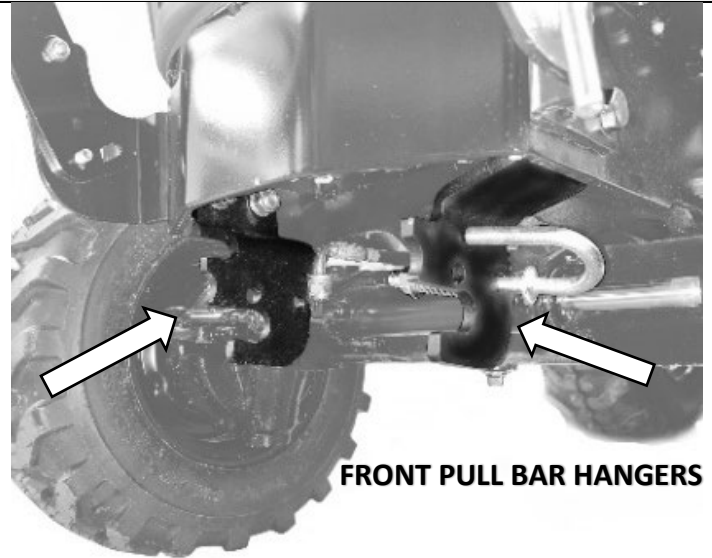

Figure 5B
5. Install the Front Pull Bar Hangers on the inside of the tractor frame. Align the hanger holes with the bottom holes on the tractor frame and secure them using the bolts and nuts removed in the previous step. The J-Bolt Pin will be installed on the left side of the tractor (figure 5B). Leave the J-Bolt Pin in the “unlocked” position. Torque to 75 ft-lb.